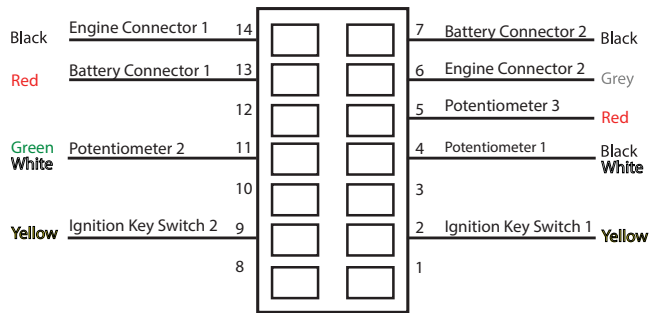
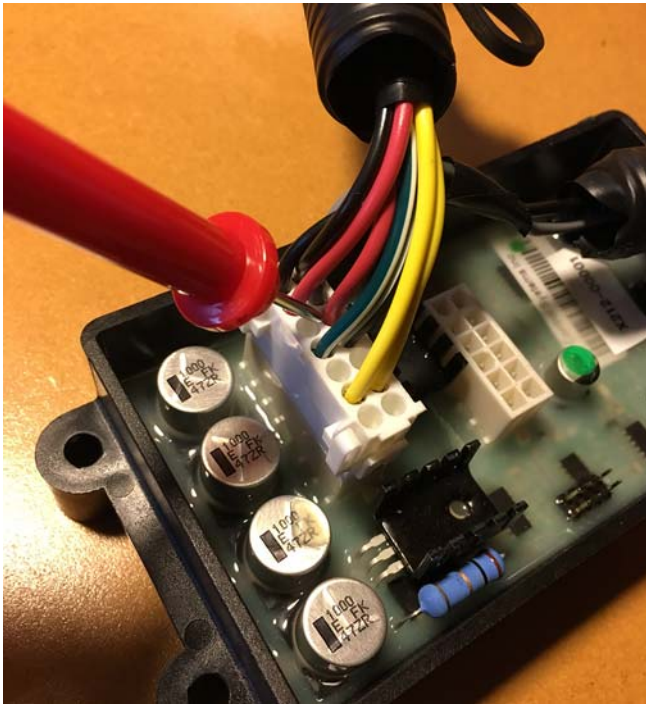

Figure 168
Figure 169
1. Set a multi-meter to ohms and measure the potentiometer resistance. See Figures 168 and Figure 169.
- b. Position the red probe on the terminal of the red wire at the potentiometer (Pin 5 in Figure 168) and the black probe on the terminal of the green / white wire.
- b. Position the red probe on the terminal of the red wire at the potentiometer (Pin 5 in Figure 168). Also see Figure 169.